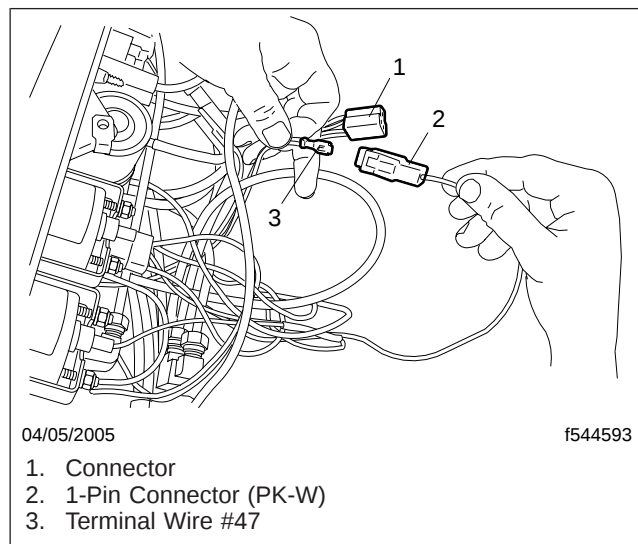

Fig. 3, Dash Panel "B" Wiring
9. Locate the vehicle harness connector in the main dash harness that houses circuit #47, GND2, and 81C. It should be in the "B" panel area above the radio, and may be taped over. See Fig. 3.